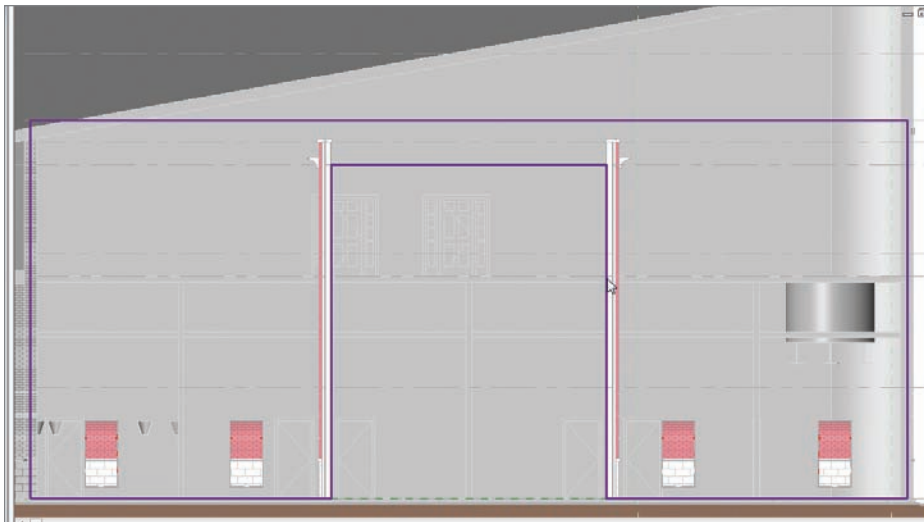

FIGURE 21.12 Cutting the hole
5. Pick the inside faces of the two new walls, as shown in Figure 21.12.
6. Pick the Level 4 level (again, refer to Figure 21.12).